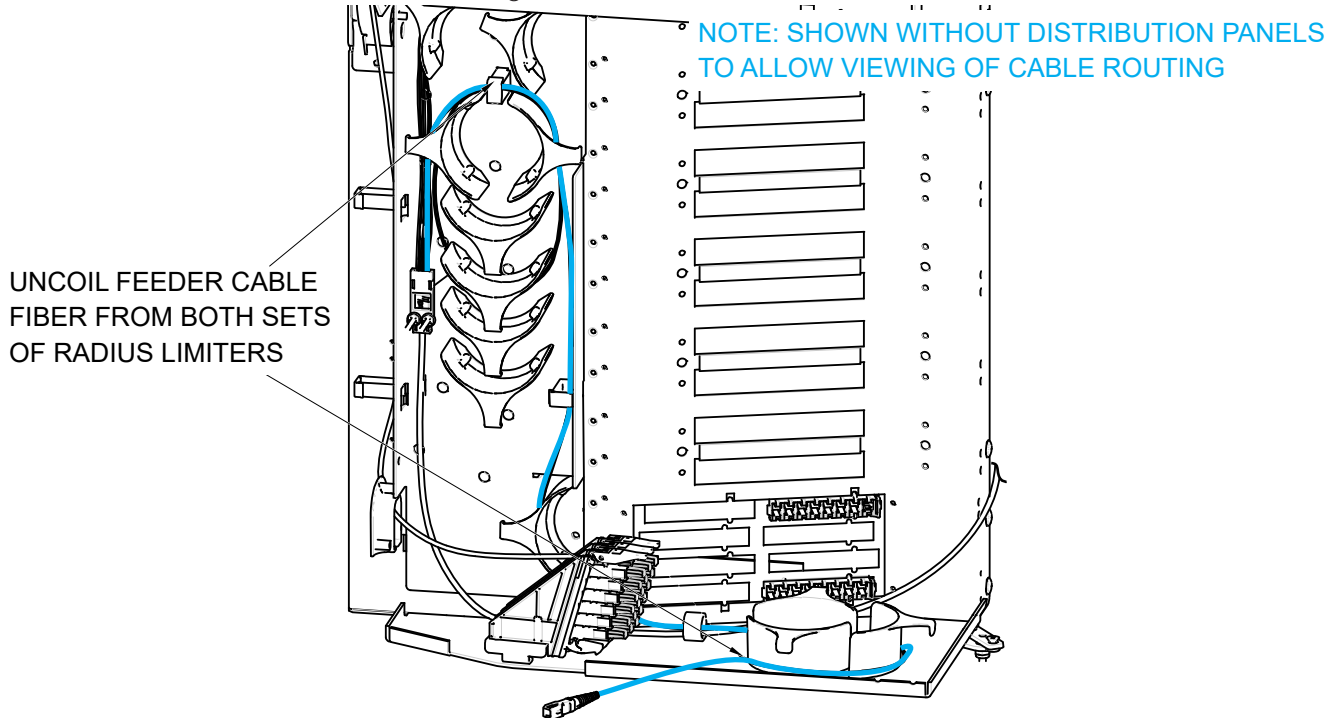

Figure 36. Uncoiling the Feeder Cable Fiber
17.6 Carefully unwind the feeder fiber from the radius limiters located on the bottom and on the left side of the swing-out assembly. Figure 36 shows the section of the fiber that will need to be released for re-routing. When necessary, backfeed the fiber to free the connector from the remaining fibers.